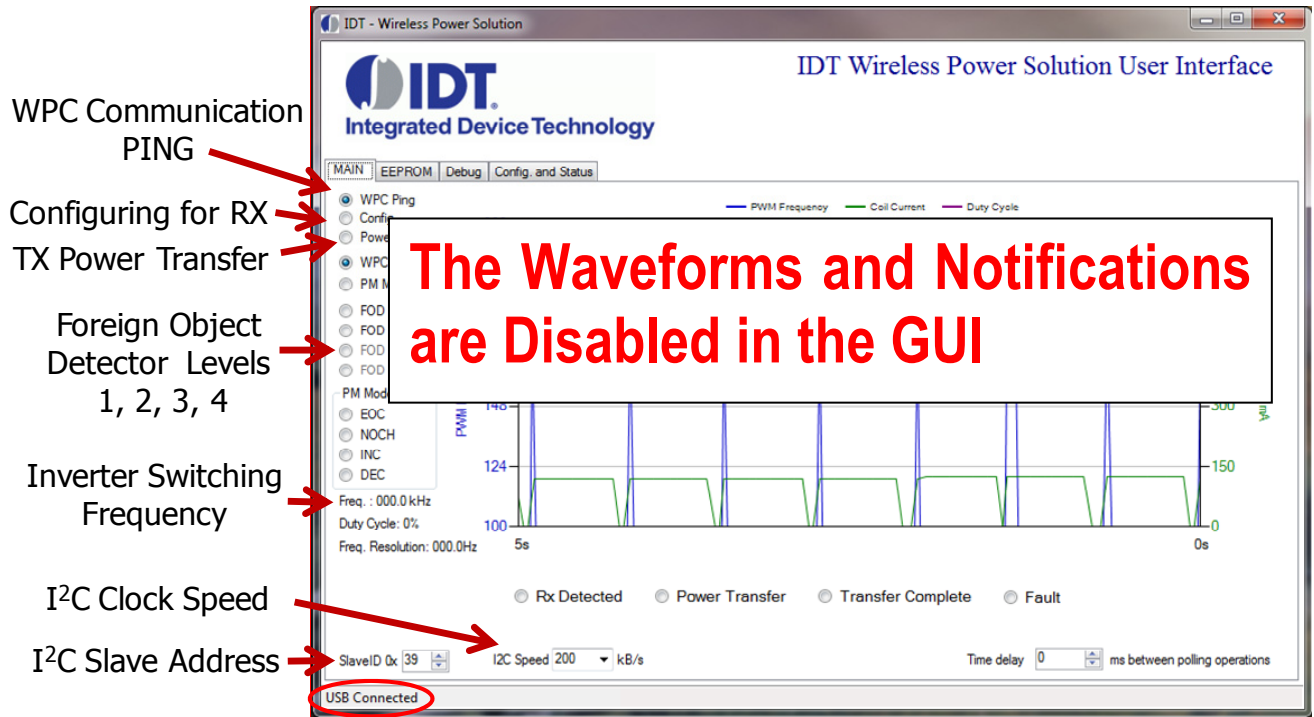

Figure 21. Windows GUI Main tab
6. Without an RX load on the coil, note which LEDs are lit up on the eval board. Now place a load onto the coil and observe the different LEDs that light up depending upon where the RX load is placed onto the coils. The LEDs are defined in Figure 5. Also observe the different real time signals propagating on the GUI (Figure 21). Any problems see Troubleshooting page 19.
You can verify that the IDTP9036 is properly connected to your computer and able to communicate with the evaluation board by looking at the lower left of Figure 21. It should state “USB Connected”. Otherwise it will state in Red letters: “USB Disconnected – Check Connection”.
- 2) Placing different Rx objects and loads onto the coils will change the real time signals, and it will change the location of the Blue “dot” at the left side of the GUI’s MAIN tab (Figure 21). For example, when the system is first turned-on, and without a load on the coil, the Blue “dot” will flash, i.e, “ping”, at the WPC Ping text location, at the very top left hand side of GUI. Then, when a load is placed on the coil, the flashing Blue “dot” at WPC Ping will cease and a solid Blue dot will appear at the Power Transfer Line text location on the left hand side of the GUI. Also, it should be noted that the red LEDs D3 and D4 will flash on/off on the eval board without an RX. Note, however, that if the load is connected to one of the three coils, the red LEDs will turn on as shown in Figure 5 and Table 1. Also, once the RX has established good communication with the evaluation board, the Rx Detected and Power Transfer “non flashing” solid Blue dots located just below the real time signals on the MAIN tab of the GUI will appear, Figure 21. Moving the RX on the coils will change the Coil Selection LEDs as shown in Table 1.